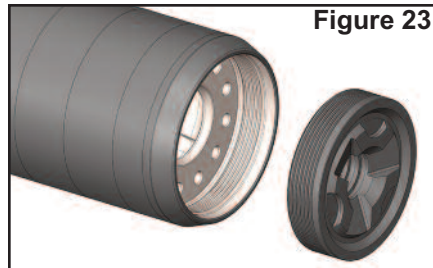

Figure 23
2. Remove the front-end cap from the silencer. See Figure 23.